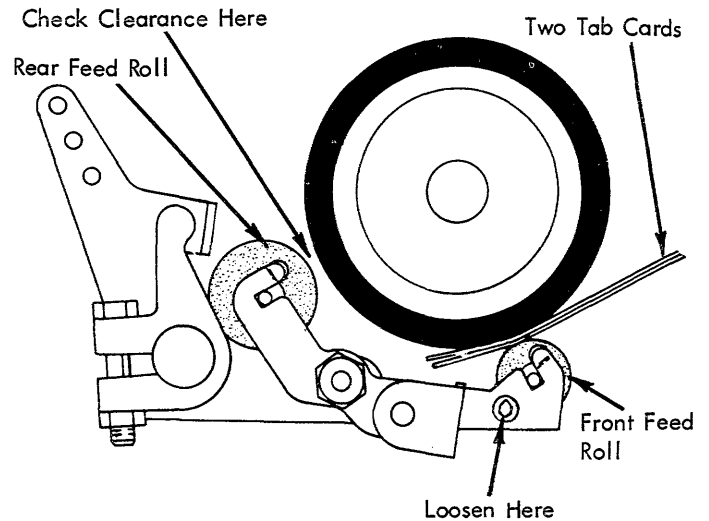

FIGURE 190. Feed Roll Adjusting Arm (New Style)
- b. Late - The front feed roll adjusting arms should be adjusted as follows: When two tab cards are placed between the front feed rolls and the platen, the rear feed rolls should clear the platen (Fig. 190). When one tab card is placed between the front feed rolls and the platen, the rear feed rolls should touch the platen.